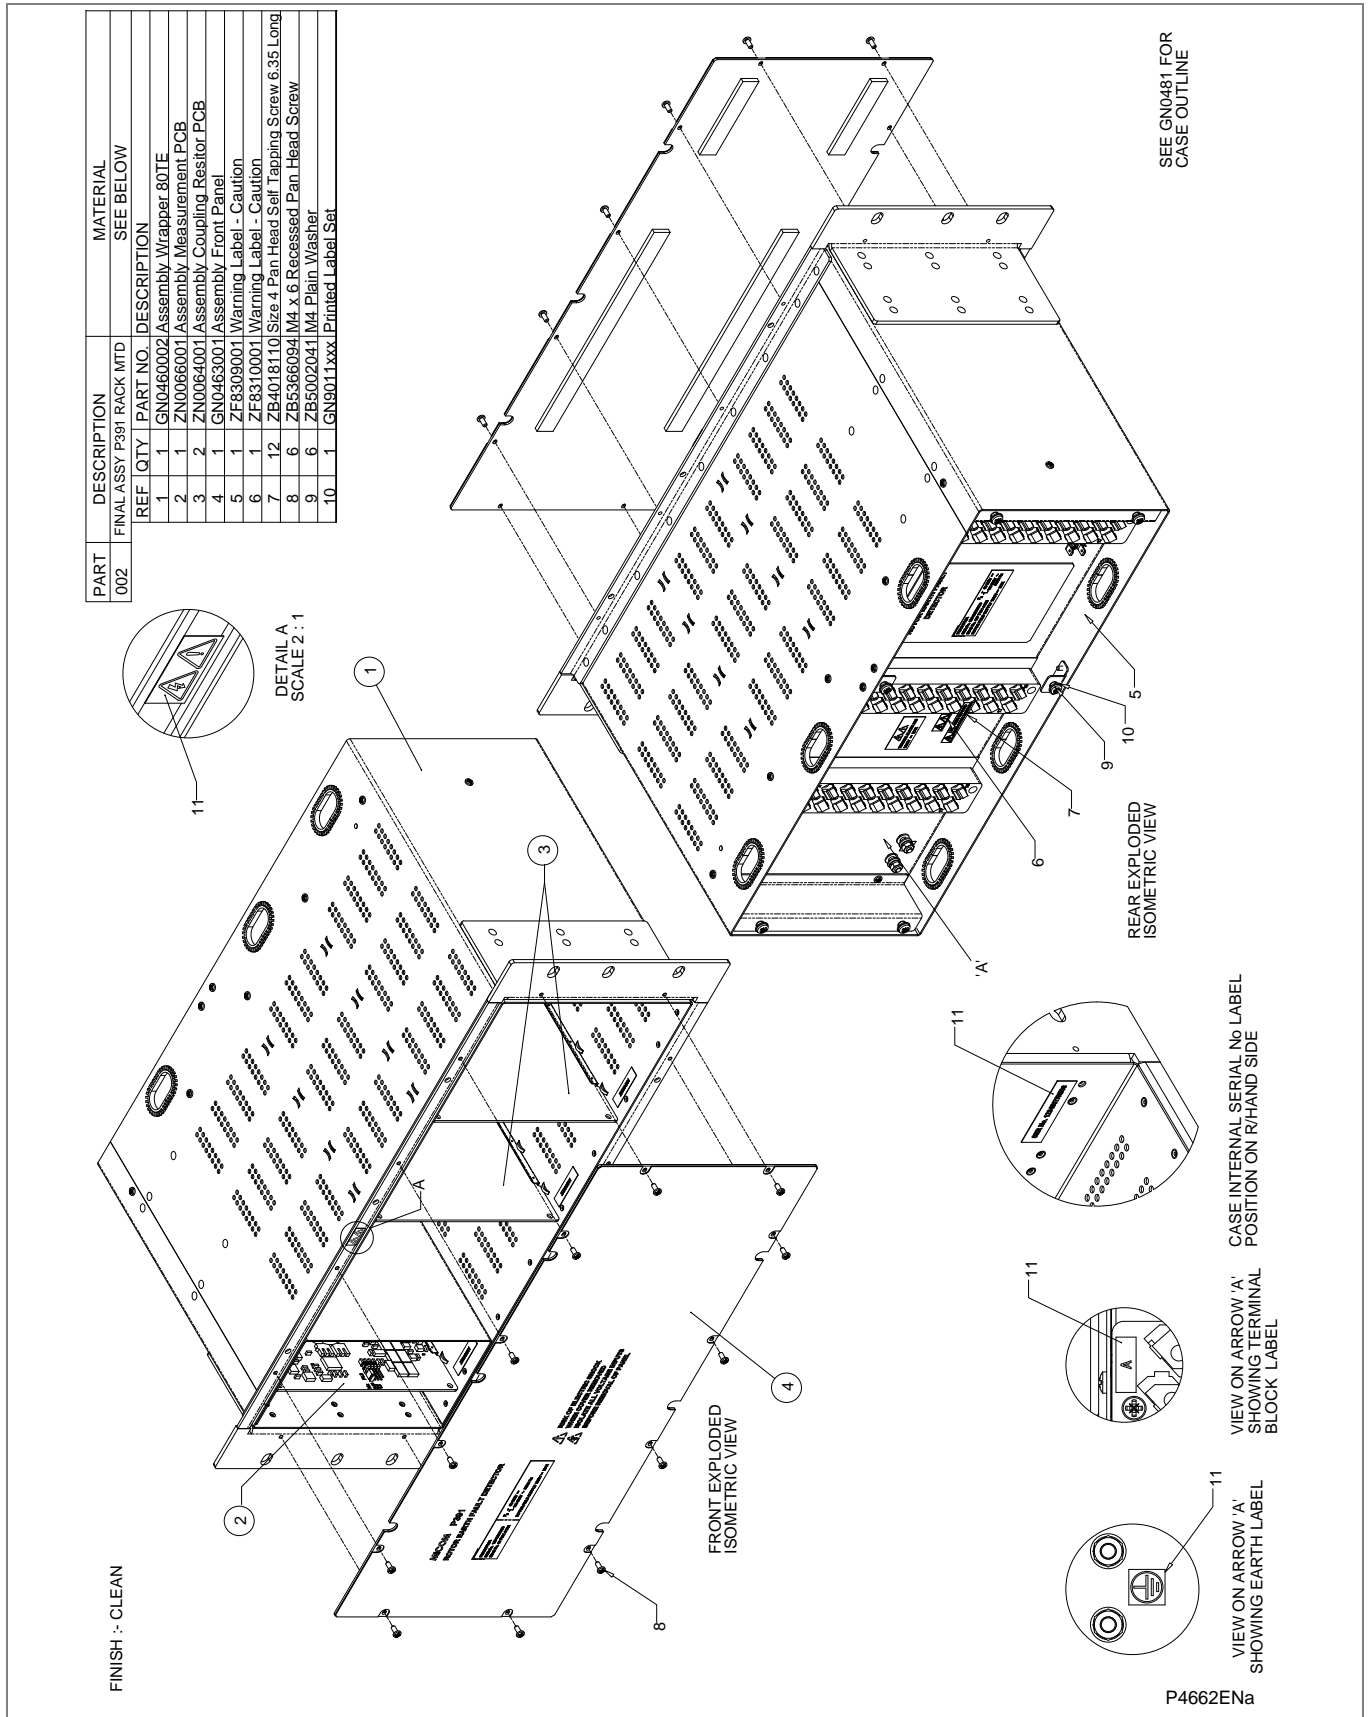

Figure 62 - P391 rack mounted - Final assembly drawing
- Figure 62 - P391 rack mounted - Final assembly drawing